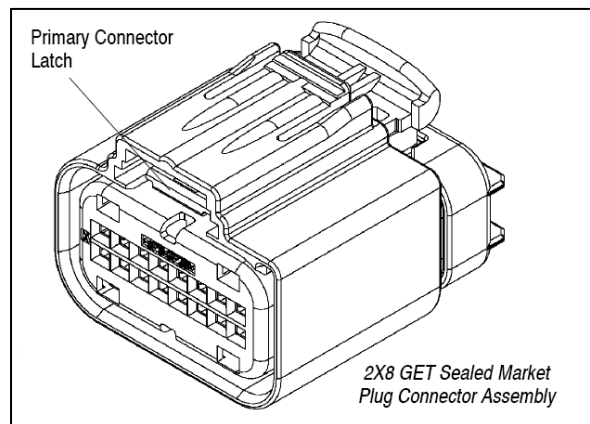

Figure 3-3. GET Sealed Market Plug Connector Assembly
The rear of the connector must be completely sealed. Unused circuits are blocked by molding shut the unused terminal opening on the rear cover. A pin molded on the blocked circuit passes through the mat seal to prevent any contamination from entering the seal. See Figure 3-3. Current blocked circuit configurations can be found on the TE Customer Drawing. New configurations can be obtained by contacting the Product Information Center at (800) 522-6752).